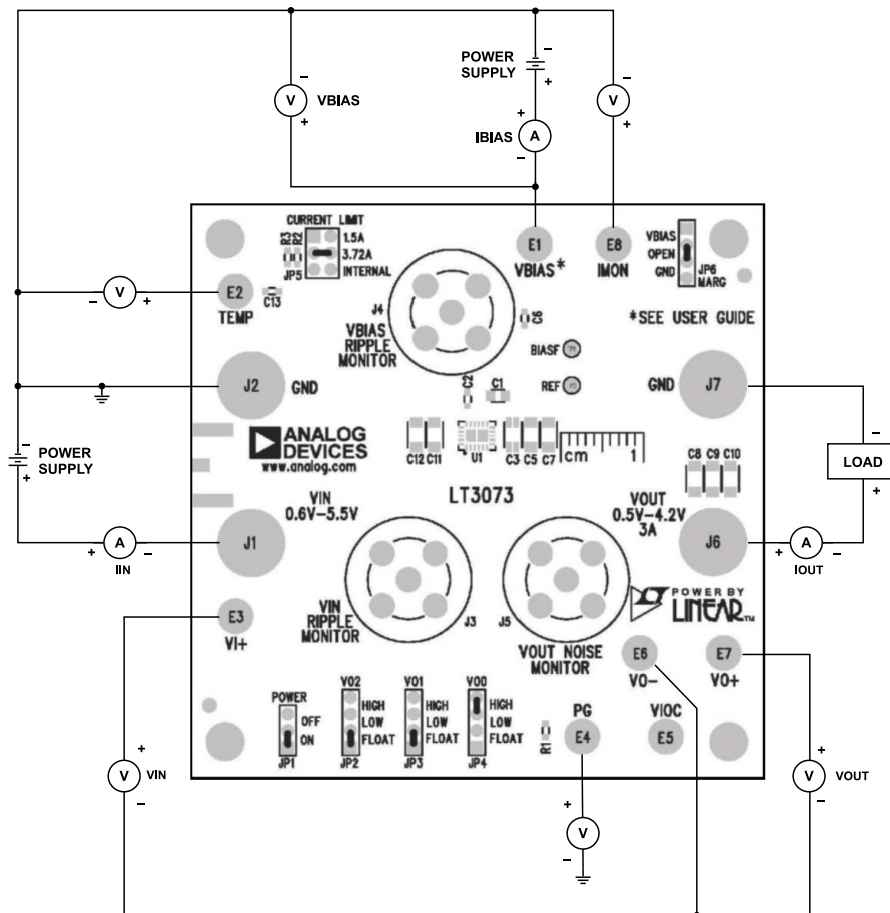

Figure 2. Proper Measurement Equipment Setup for the EVAL-LT3073-AZ
To use the EVAL-LT3073-AZ to evaluate the performance of the LT3073, see Figure 2 for the proper measurement equipment setup and take the following steps:
1. With the input supplies off and turned down and the load turned down, make all the connections shown in Figure 2. Ensure that the VO2, VO1, and VO0 jumpers to set VOUT are in the proper positions for the desired VOUT according to the V_{OUT} selection matrix table in the LT3073 data sheet. In addition, ensure that the POWER jumper (JP1) is in the **ON** position, the CURRENT LIMIT jumper (JP5) is in the **3.72A** position, and the MARG jumper (JP6) is in the **OPEN** position.